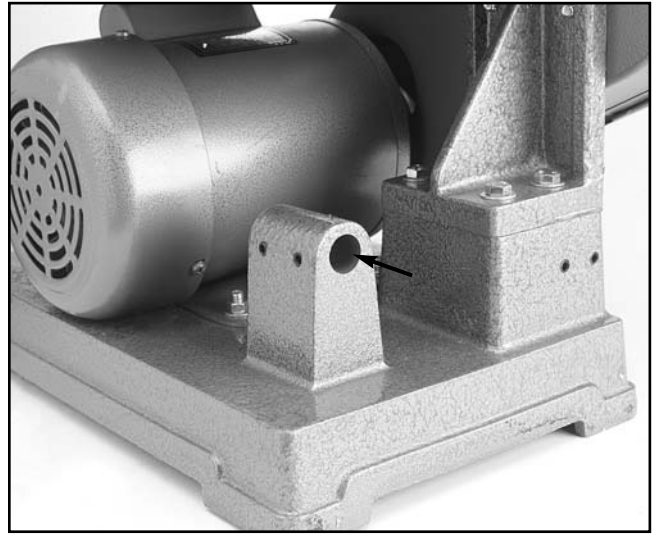

Figure 17.
2. The Sanding Disc Table can also be moved to become a work table for belt sanding. Simply remove the Table Support Shaft from the base and insert it into the mounting bracket behind the motor. The Bracket's location is shown in **Figure 17**.